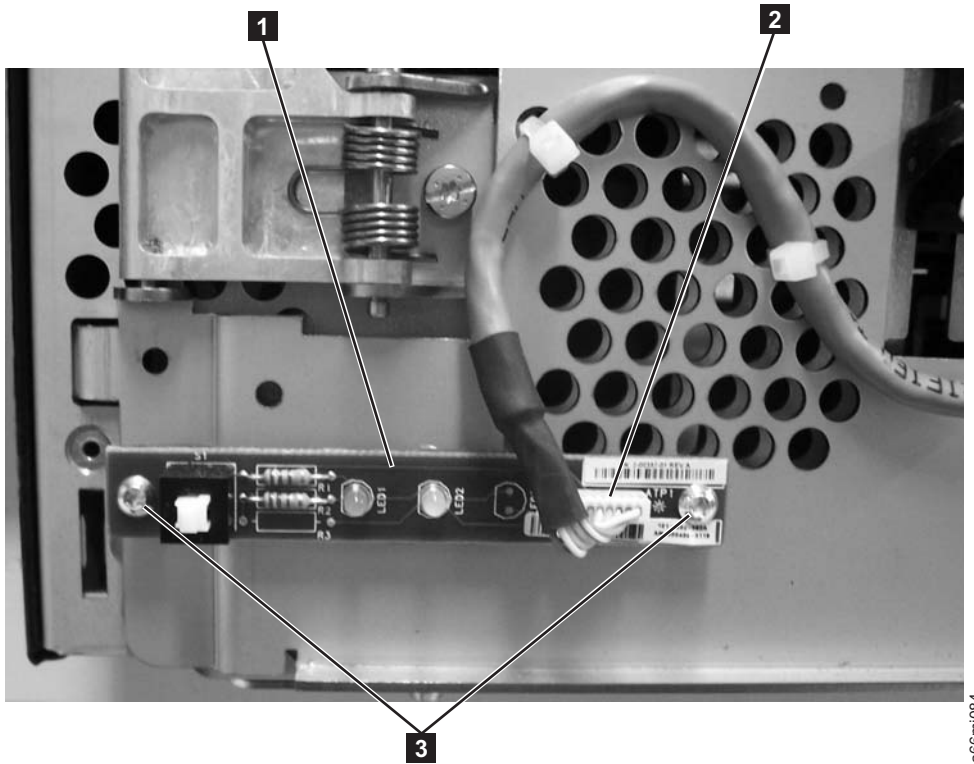

Figure 8-18. Power Switch/LED Board Assembly
The Power Switch/LED Board Assembly (**1** in Figure 8-18) contains the power ON/OFF button, power ON LED, and Operator Attention LED.
3. Disconnect the small white connector (**2** in Figure 8-18).
4. Remove the two screws (**3** in Figure 8-18).